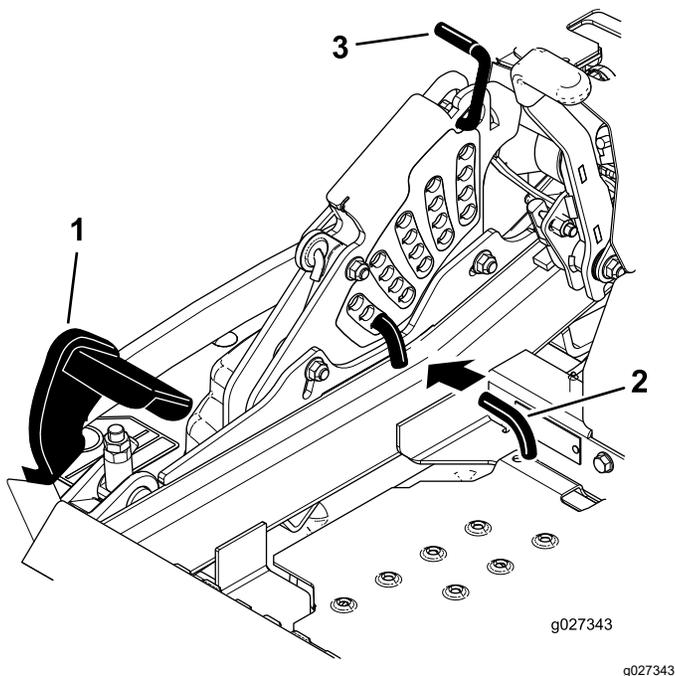

Figure 30
2. Push on the deck-lift pedal with your foot, and raise the mower deck to the transport position (also the 140 mm (5-1/2 inch) cutting height position) as shown in Figure 30.
3. To adjust, rotate the pin 90 degrees and remove the pin from the height-of-cut bracket (Figure 30).
4. Select a hole in the height-of-cut bracket corresponding to the height-of-cut desired, and insert the pin (Figure 30).